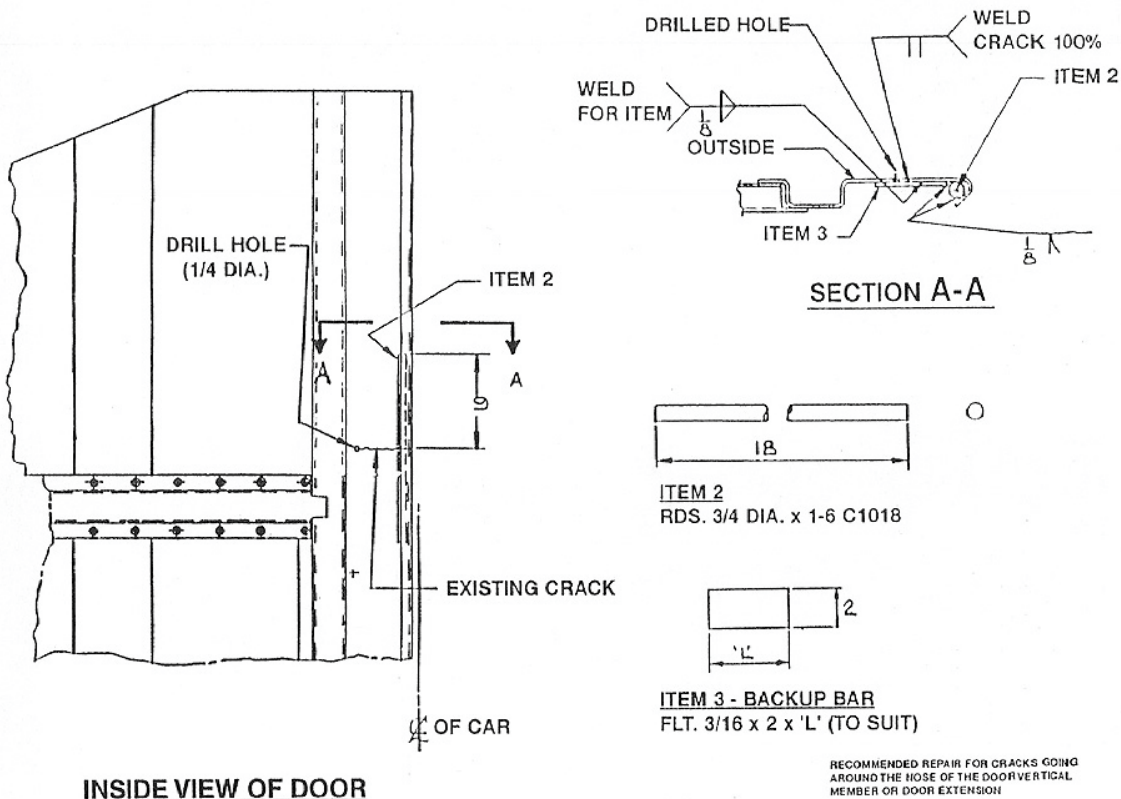

Figure 5.
(Refer to Figure 5.)
1. It is most important to drill a 1/4" hole at the end of the crack. (See Figure 5, "Inside View of Door".)
2. Clamp a 3/4" x 8" round bar (Item 2) to the inside of the nosepiece as shown in Figure 5. Place the bar vertically so that the rod is centered 9" below the crack.